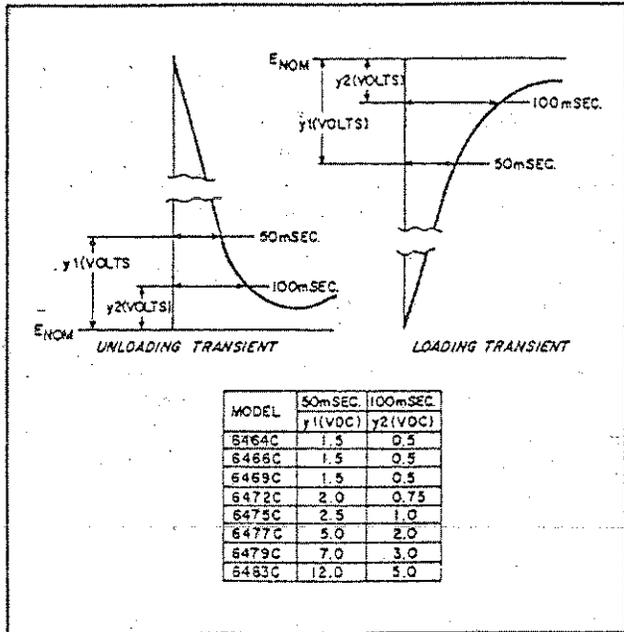

Figure 5-5. Transient Recovery Time Waveforms
- e. Starting from the major graticule division representative of time zero, count to the right either 50 milliseconds or 100 milliseconds and vertically "y" millivolts. Recovery should be within the tolerances of "y1" or "y2" as shown in Figure 5-5.